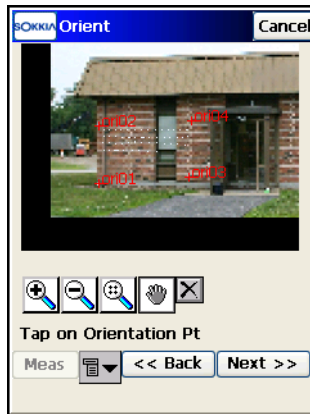

Figure 8-57. View Completed Scan Session
- Click the **View** button to open the *Orient* screen (Figure 8-57 on page 8-52). This screen displays the image, along with orientation and scanned points for completed scan sessions.